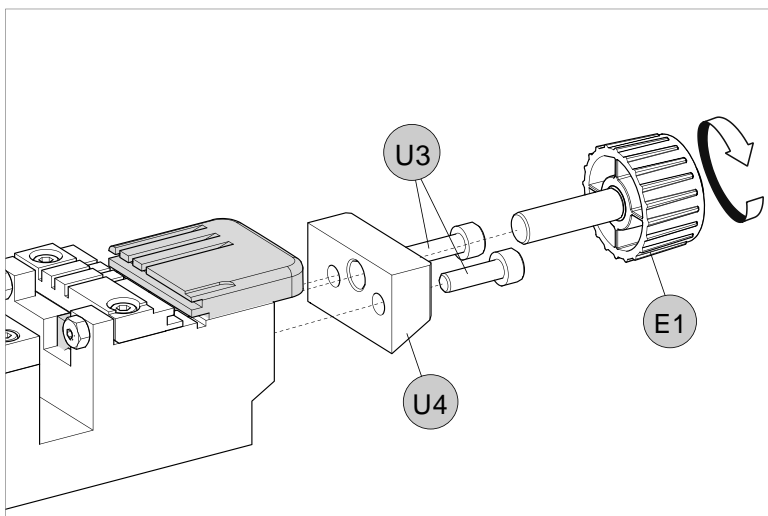

Fig. 66
- 2) Loosen the 2 screws (U3) and remove the plate (U4) (Fig. 66).